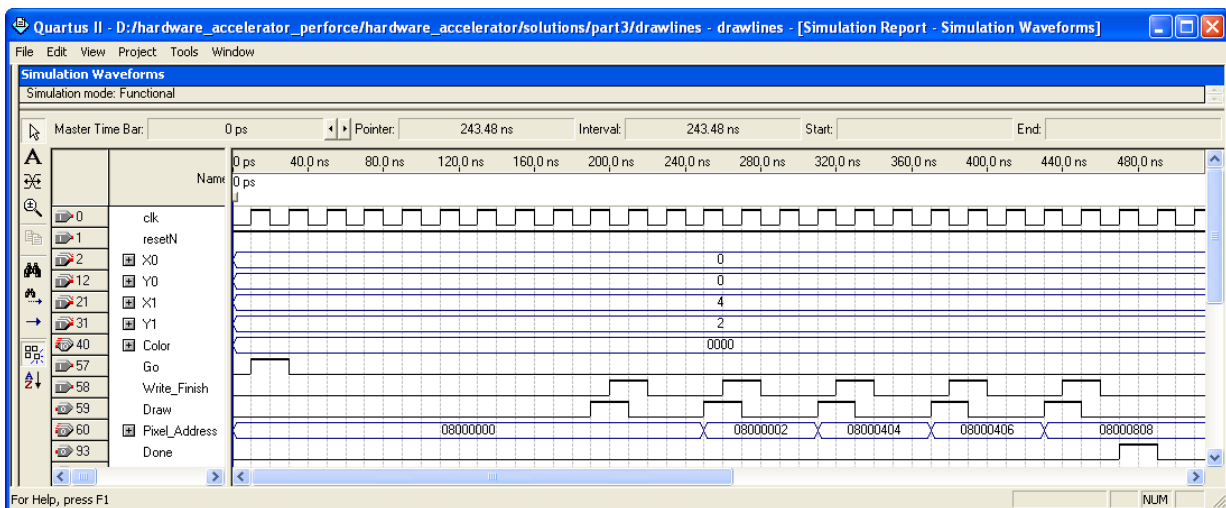

Figure 5: Simulation of the LDA circuit.
3. Use functional simulation to verify that your circuit is correct. An example of the output produced by the functional simulation for a correctly designed circuit is given in Figure 5. The figure describes the sequence of drawing a line from (0,0) to (4,2).